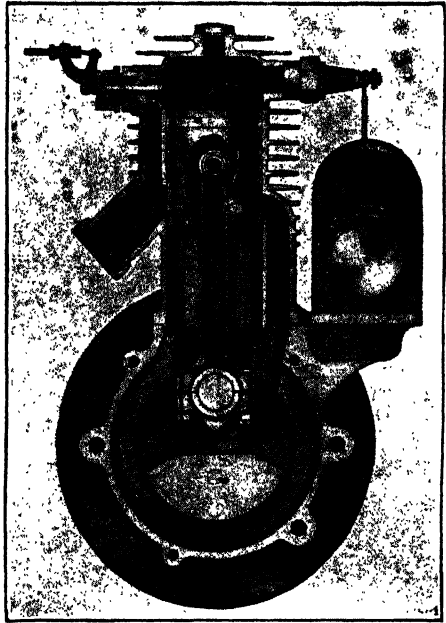

Fig. 27. Single-Cylinder Motorcycle Motor
*Single-Cylinder Type.* We have already predicted the disappearance of the large size single-cylinder engine which is still favored by some of the public-service corporations, and, at the same time, have pointed out the crop of new machines of the light-weight type which employ the one-cylinder engine, to say nothing of the popular motor-wheel type. Some of these light singles work upon the four-cycle principle, while there is also a large crop of the two-stroke variety. Fig. 27 shows a section of the Excelsior light-weight two-cycle engine, in which one of the points worth noting is the de-